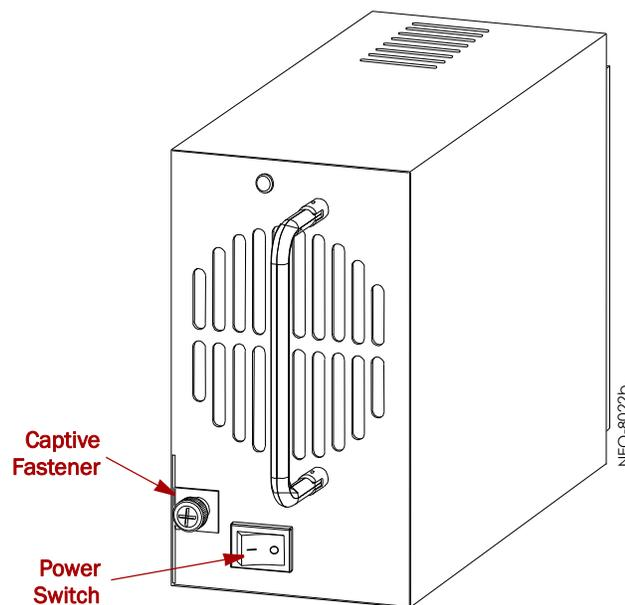

Figure 9-1: NEO 8000 Power Supply
2. Verify the power switch is in the **OFF** position and the **captive fastener** in the lower left corner is open and down (Figure 9-1).